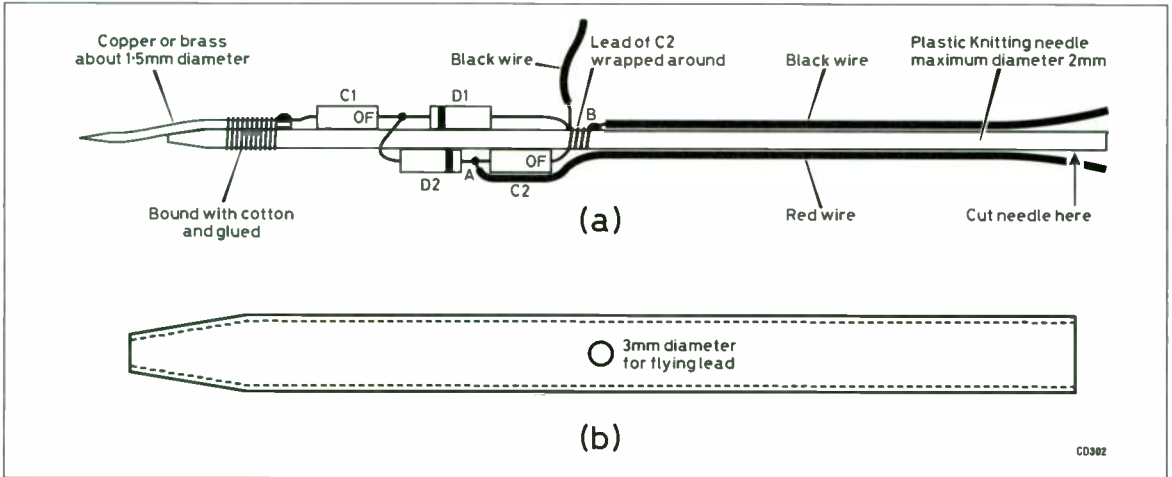

Fig A1.10. (a) The position of the components on the needle. (b) The pen body
2. The components are arranged in two lines along the needle as shown in Fig A1.10. The polarity of the two diodes is most important. Refer to the diagram. The cathode marks (a band) *must* be as shown. If the capacitors have a band or the letters ‘OF’ (standing for outside foil) they should also be connected as shown, although the device will still work correctly if these are reversed.
body of a disused ball-point pen (the fatter variety) so that the tip of the wire protrudes by about 4mm. Figs A1.10 and A1.11 should make this clear. If the components listed have been used it should be possible to do this successfully. Try to keep the leads of the components short but remember that germanium point-contact diodes can be damaged by too much heat, so make your joints quickly.
5. Make a 3mm hole in the plastic pen body at the position marked, pass a piece of PVC-insulated wire through the hole so that it comes out of the big end of the pen, and solder the wire to the earth band. Refer to Fig A1.10.